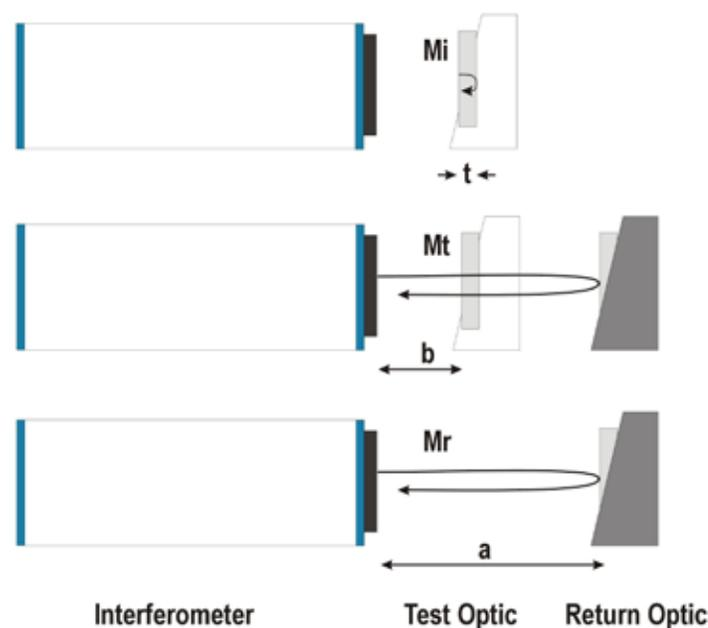

Figure 1. An improved homogeneity procedure requires only three measurements and only one setup.
Figure 1 shows these three measurements.
- b. Set the Path Match to the entire cavity length. Per Figure 1 this equals $a + (n-1)t$. In the Live Video screen you should now see fringes between the t-flat and return flat.